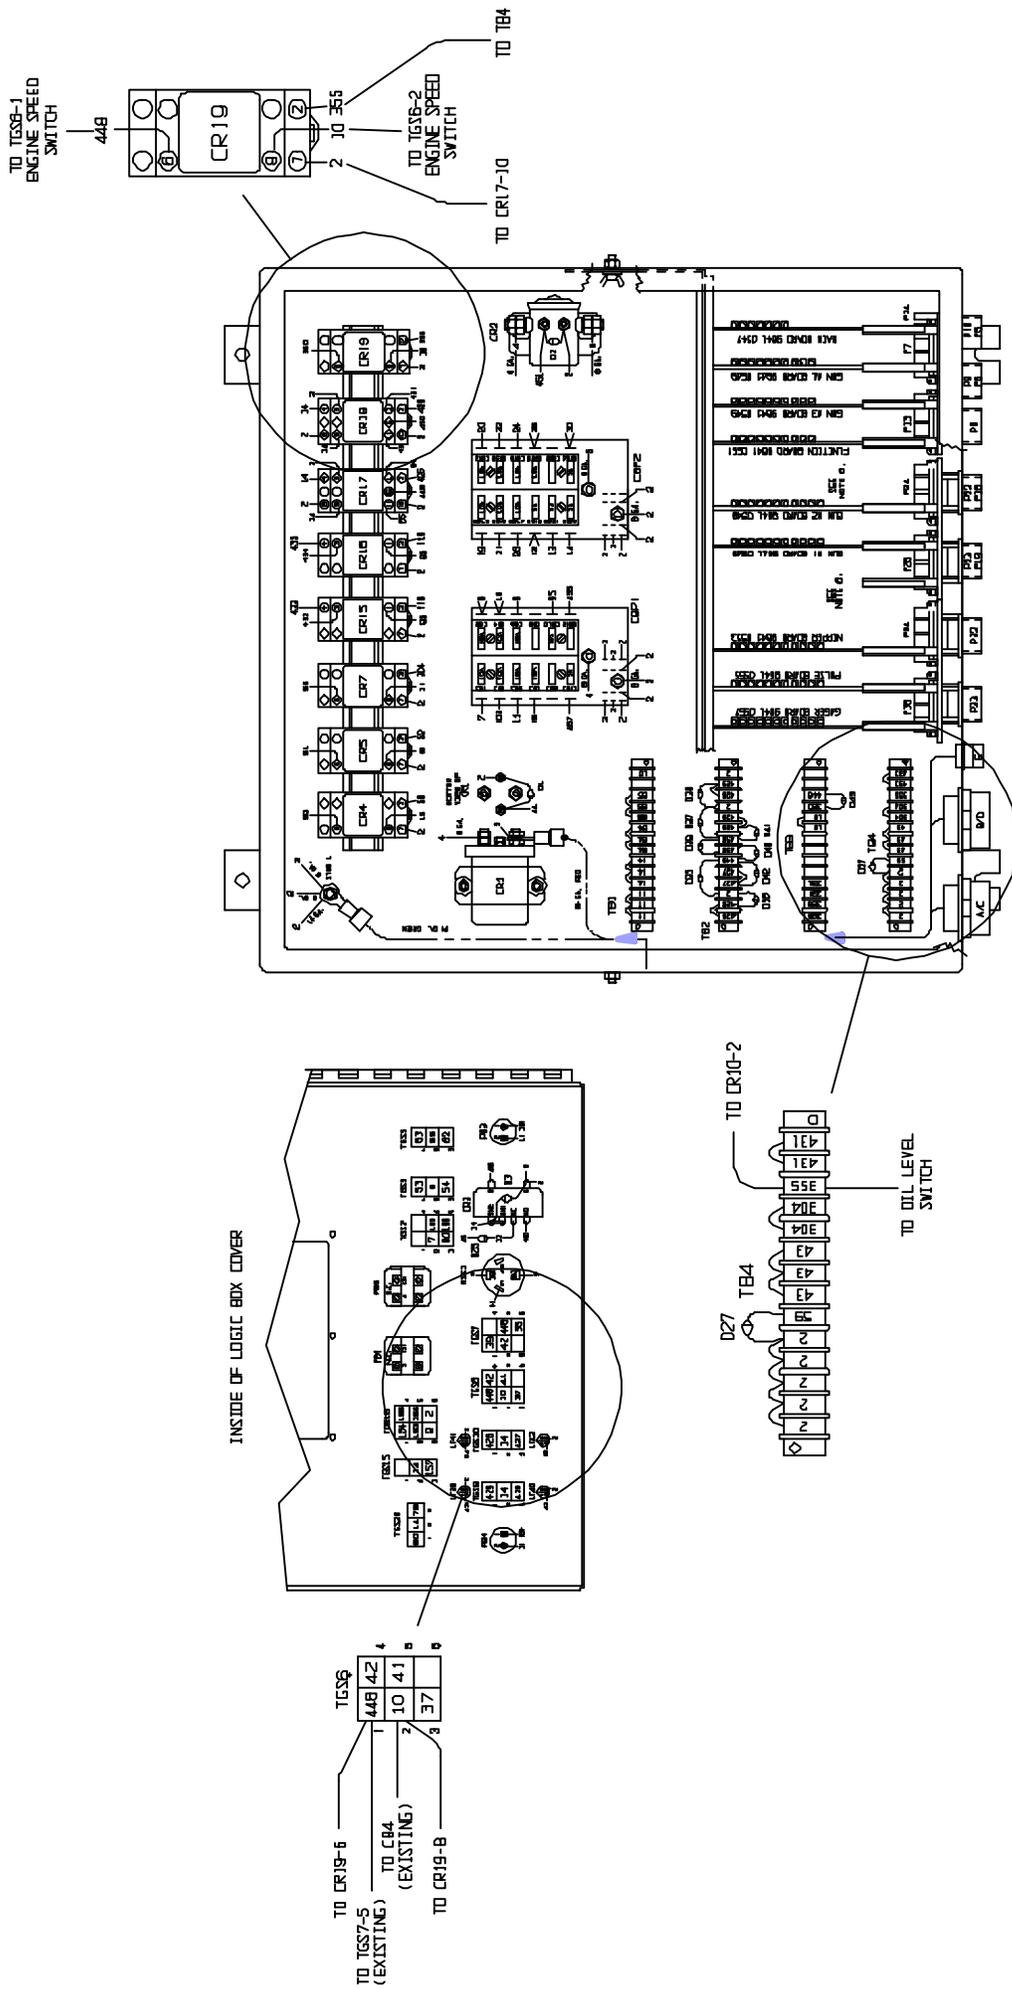

Figure 2
2. Electrical failure due to more current draw than the rated capacity for the switch. A relay is being installed in the pump destroke valve circuit to reduce the electrical load seen by the switch. The relay snaps into the existing mounting track inside the Main Logic Box and wired as shown in Figure 2.